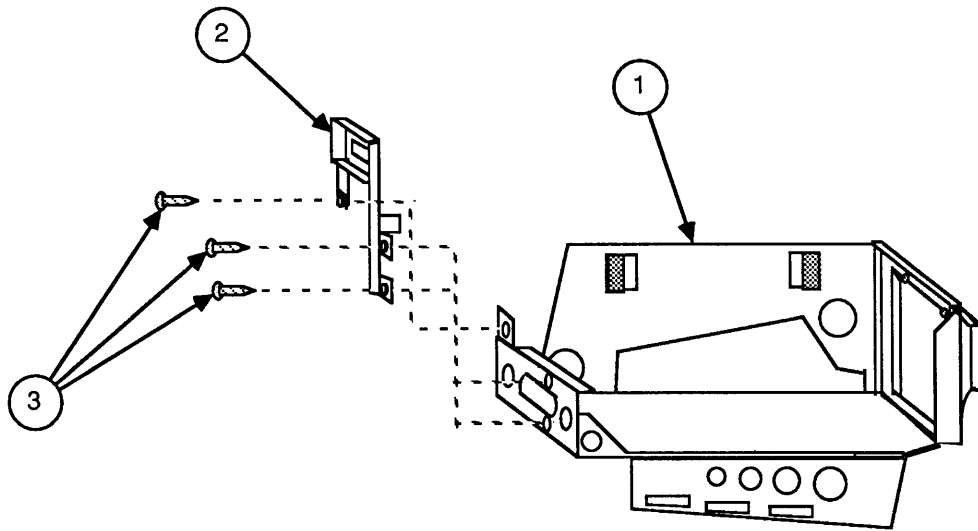

FIGURE 2
- IPL.5 Chassis Assembly (Figure 2)
□ CHASSIS ASSEMBLY (Figure 2)